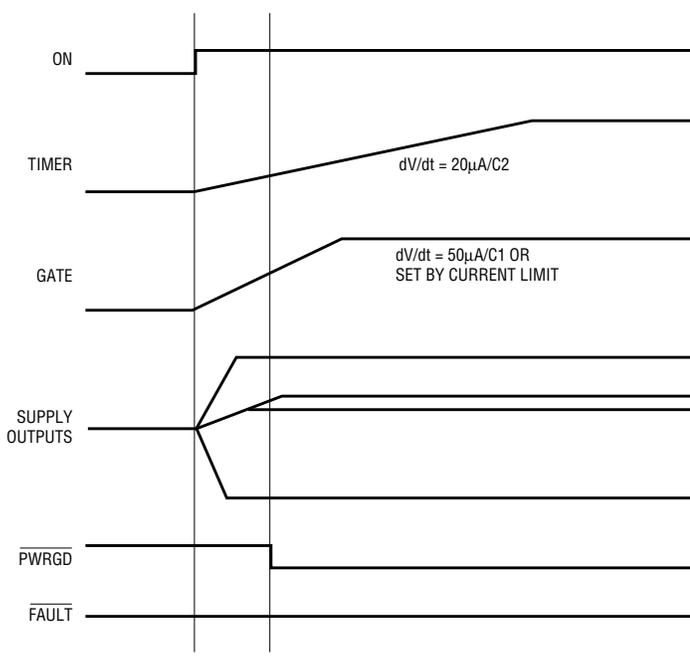

Figure 2. Normal power-up sequence
When the ON pin (5) is pulled high, the pass transistors are allowed to turn on and a 20 $\mu$ A current source is connected to the TIMER pin (4) (see Figure 2). The current in each pass transistor increases until it reaches the current limit for each supply.